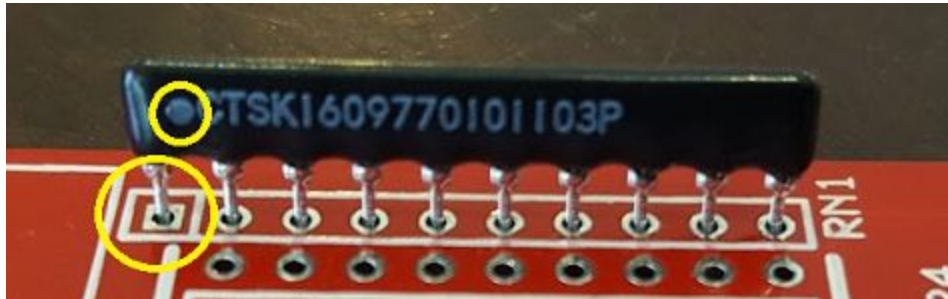

Fig 2
6. Install the RN1 10K Ohm 10 pin resistor network. Ensure that the dot on the resistor network package is on the same side as the square pin that indicates pin 1 on the circuit board. See Figure 2.
7. Install the RN2 10K Ohm 8 pin resistor network. Ensure that the dot on the resistor network package is on the same side as the square pin that indicates pin 1 on the circuit board. See Figure 2